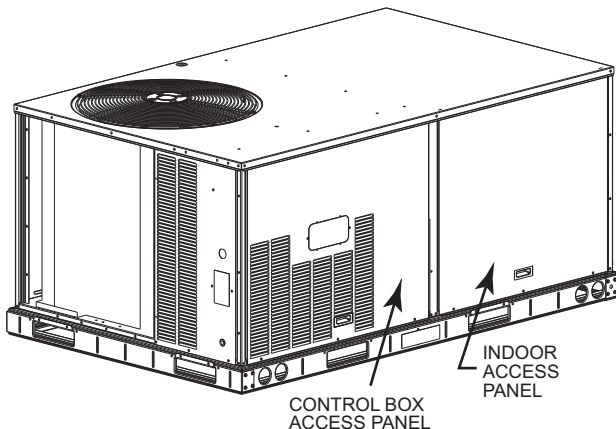

Fig. 4 — Typical Access Panel Location
2. Remove the outdoor access panel, control box cover, and indoor access panels from the unit. Save screws. See Fig. 4.